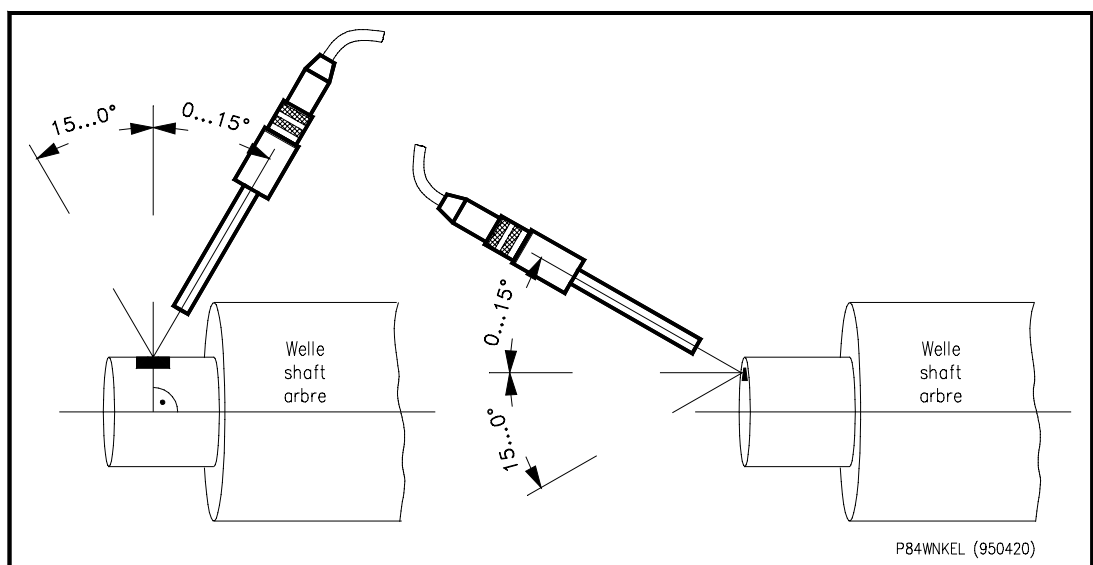

Fig. 5 Optimum installation angle of the reference sensor
- ◆ The optimum angle of the reference sensor vertical to the axis of shaft rotation should be **0 ... 15°** (see Fig 5). Vertical installation might lead to undesired reflection, the signal rise will be too low at angles above 30°.